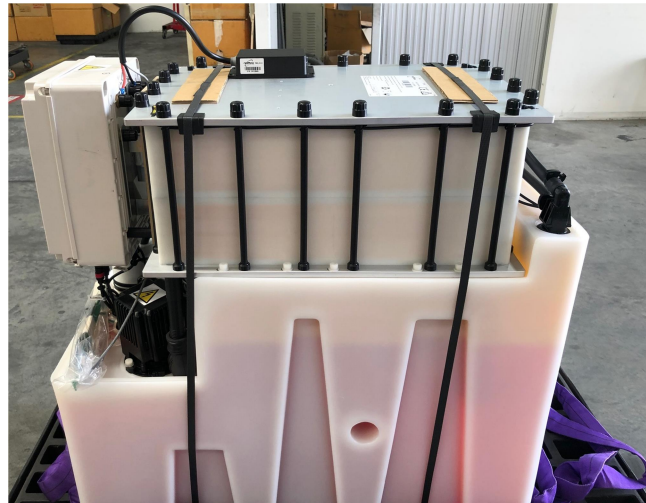

Figure 39: Lifting straps
- Step 11** Tidy the ZBM2's lifting straps away neatly as shown in Figure 39. They remain on the ZBM2.